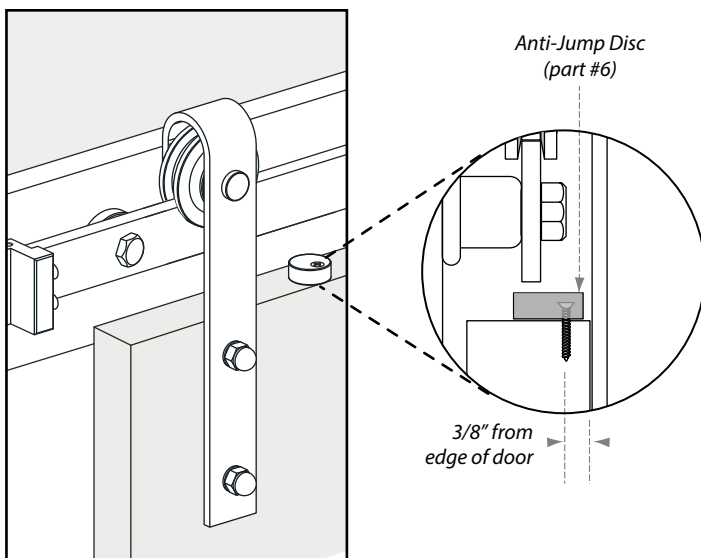

Figure 9
5. Once clearances and proper door operation are established, install anti-jump discs as shown 6" to 8" from edge of door (figure 9).